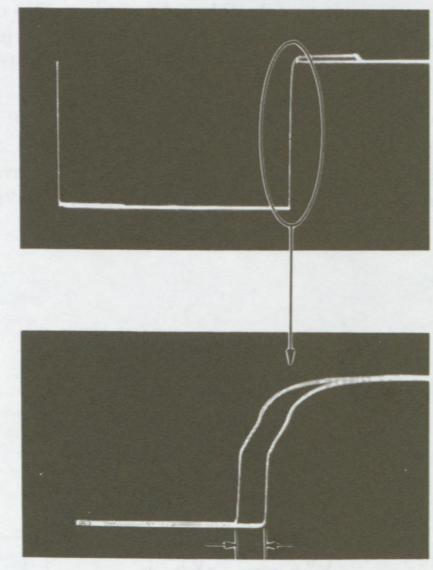

Fig. 5-103.
7. Set the oscilloscope to the DELAY mode and adjust RV 3 so that the rising sections of the pulses superimpose on each other completely as shown in Fig. 5-103.